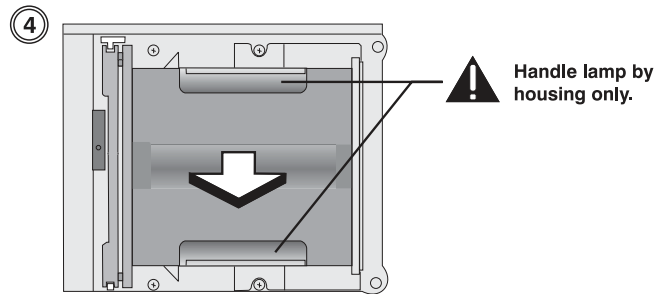

Figure 5-3. Removing the Lamp
- Grasp the lamp by its housing only and pull it straight out (lamp slides along guides) until it's free; see Figure 5-3. Discard the lamp using safe disposal/recycling practices or contact your Runco dealer for a possible re-lamping program.